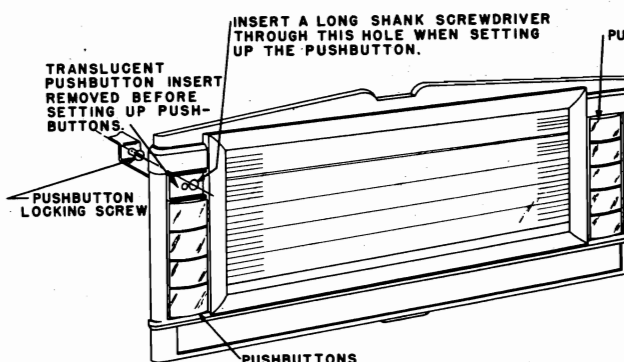

Fig. 1. View showing pushbutton setup.
3. Insert screw driver blade through large hole of pushbutton into slot of locking screw. (See Fig. 1).